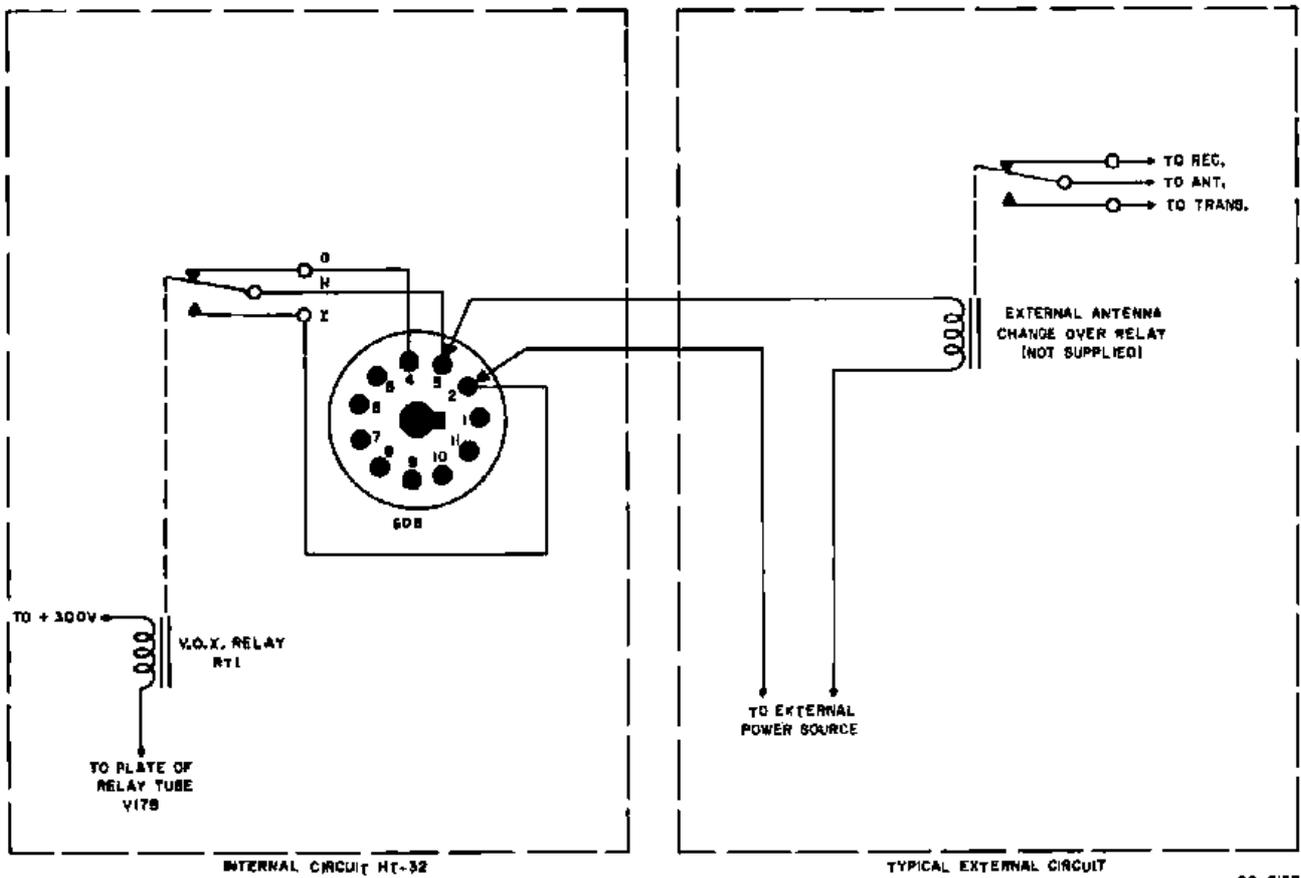

Figure 3. Control Outlet Relay Connections
**2-4-4. ANTENNA RELAY (Pins 2, 3 and 4).** An external antenna change-over relay may be employed by utilizing pins 2, 3, and 4 on the control outlet. These pins are connected internally to insulated contacts on the VOX RELAY of the Transmitter/Exciter. Figure 3 illustrates typical connections of an external change-over relay to the control outlet. During periods of transmission the VOX relay connects pins 2 and 3 enabling the external power source to activate the external antenna change-over relay. For external applications where an open circuit is required when transmitting, pins 3 and 4 may be used. The voltage required of the external power source is dependent upon the type change-over relay used. A coaxial type relay for 50-ohm transmission line impedance is recommended. Where pins 2, 3, and 4 are used to switch external equipment loads, the load current should be limited to one ampere.